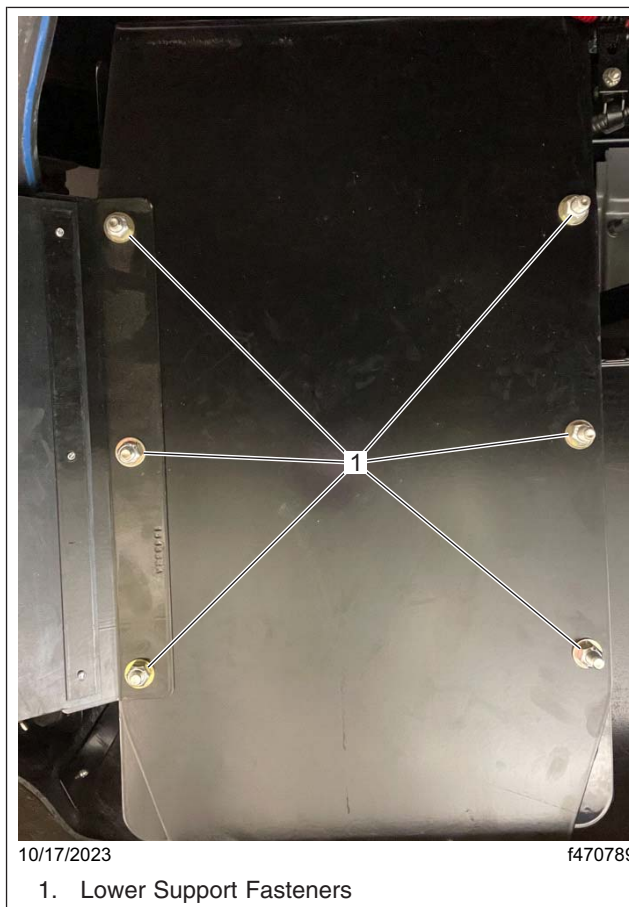

Fig. 2, DEF Tank Lower Support
6. Place the floor jack under the DEF tank lower support and remove the fasteners that attaches the lower support to the tank mounting bracket. See Fig. 2.